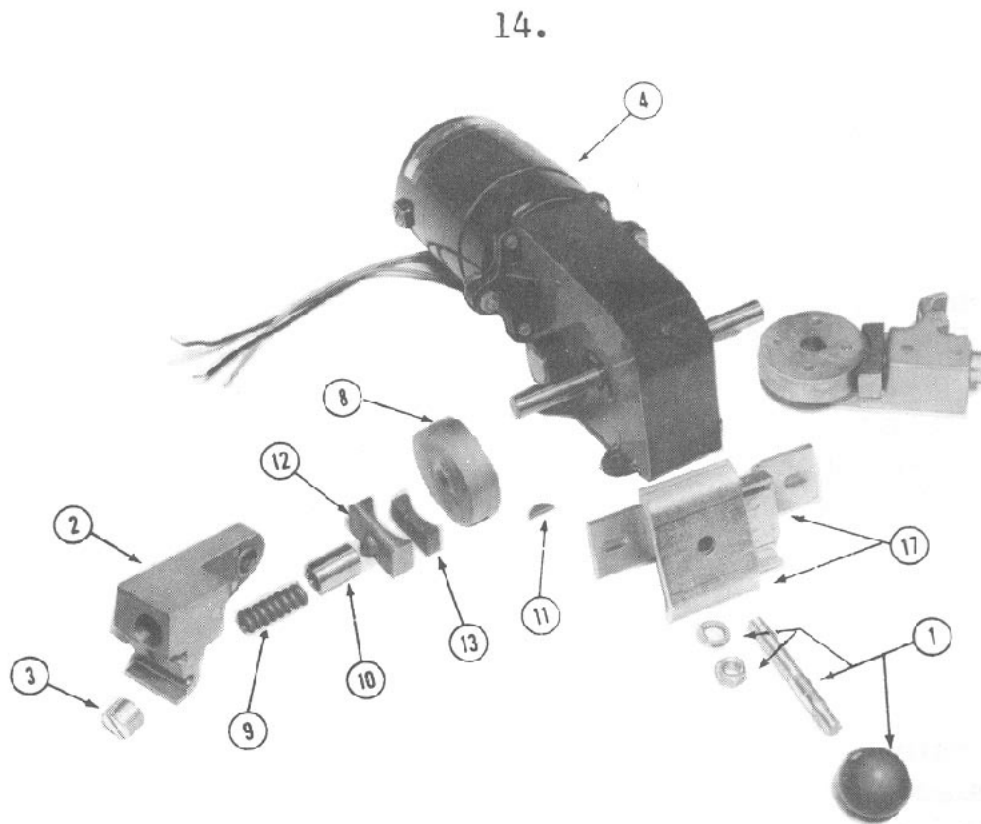

Figure 1.
The operating mechanism, pictured in Figure 1 (page 17), is used in Styles 2, and Style 3 transfer switches. The motor (4) is a universal type, reversible motor and is shipped as a complete component including the gearbox. The gearbox is a sealed unit, which should never require maintenance or attention. Because of the wide range of molded case switches used on Lake Shore Electric Transfer Switches, if motor replacement is necessary, please specify the serial number and model number of the transfer switch.